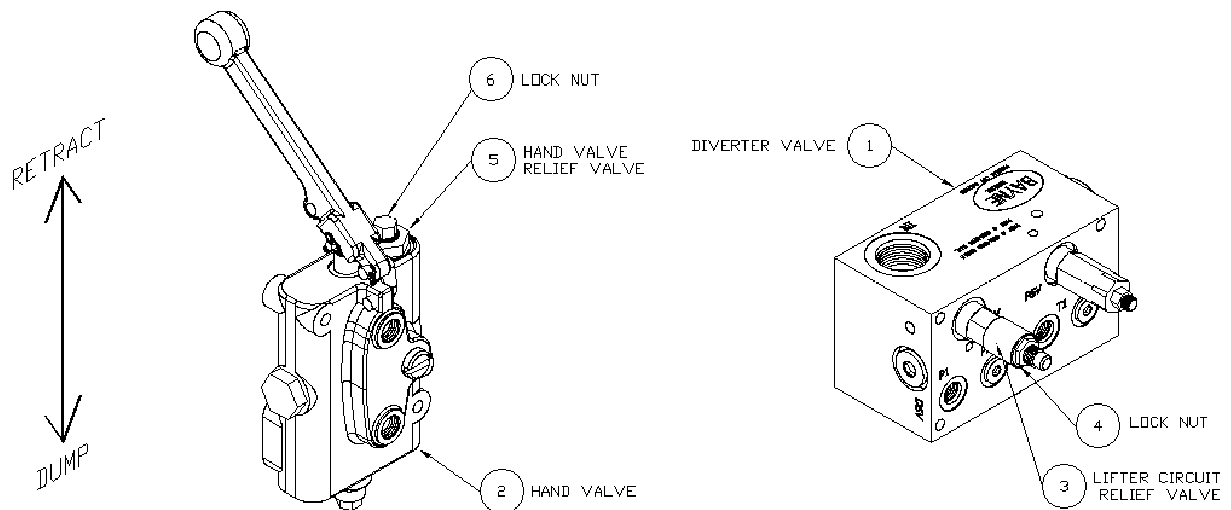
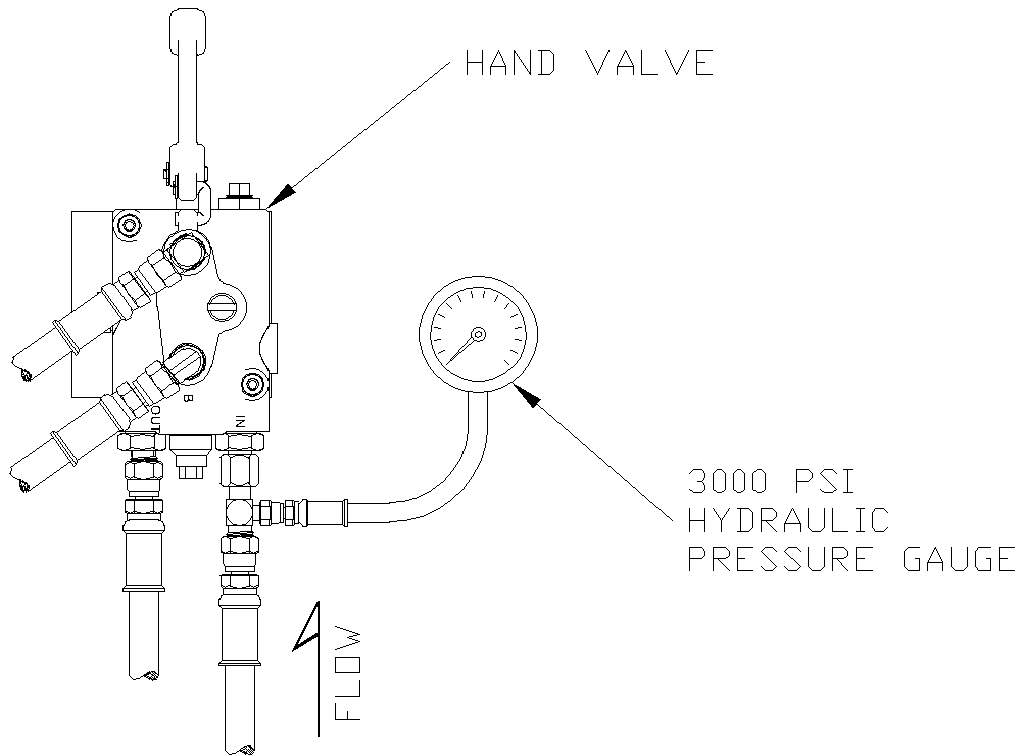

figure I-4
figure I-5
The diverter valve (1) (figure I-4) supplies the cart lifter hydraulic system with approximately 2 GPM of oil flow. This diverter valve is equipped with a full system relief valve (4) set at 2500 psi, to protect the truck's hydraulic system from any blockages that may occur down stream of the diverter valve. The diverter valve also includes a lifter circuit relief valve (3) set at 2300 psi, to prevent the diverter valve from shutting down if a blockage occurs in the lifter circuit. There is also a relief valve (5) set at 1800 psi in the hand valve (2) to protect the lifter from excessive pressure. These relief valves are preset from the factory to operate properly on most trucks with a system pressure between 2300 and 2500 psi without any adjustment. However if any adjustment is necessary, follow these instructions.
2. Remove the cap nut(s) (8) (*figure I-4*) from the hand valve relief valve(s) (5) and turn the adjustment screw(s) clockwise until it bottoms out.
3. Loosen the lock nut (6) (*figure I-4*) on the lifter circuit relief valve (3) and turn the adjustment screw clockwise until it bottoms out.
4. Loosen the lock nut (7) (*figure I-4*) on the full system relief valve (4) and turn the adjustment screw counter-clockwise until it stops backing out.
- a) Have an assistant hold the handle on the hand valve (2) (*figure I-4*) in the "retract" position. *If installing dual lifters hold the handle down on only one of the hand valves.*
- b) Turn the pressure relief adjustment screw on the full system relief valve (4) clockwise until the pressure reading on the gauge is either 100 psi above truck system pressure, or if the pressure reaches a certain point and will not go any higher, set the adjustment screw 1/2 turn past that point.
11. Install the 3000 psi hydraulic pressure gauge with the necessary adapter in the hydraulic line connected to the "IN" port of the hand valve as shown in figure I-5. *If installing dual lifters, install the hydraulic gauge at either one of the hand valves.*
- a) Have an assistant hold the handle on the hand valve (2) (*figure I-4*) (*with pressure gauge installed at the "IN" port*) in the "retract" position to show pressure on the gauge.
- b) Turn the pressure relief adjusting screw on the lifter circuit relief valve (3) counter-clockwise until the pressure reading on the gauge is either 100 psi less than truck system pressure or 2300 psi, which ever is the lowest.
- a) Hold the handle on the hand valve (2) (*figure I-4*) (*with pressure gauge installed at the “IN” port*) in the “retract” position to show pressure on the gauge.
- b) Turn the pressure relief adjusting screw on the hand valve relief valve (5) counter-clockwise until the pressure reading on the gauge is either 200 psi less than truck system pressure or 1800 psi, which ever is the lowest.
- f) *For dual lifters, install the hydraulic pressure gauge in the “IN” port of the other hand valve as shown in figure I-5, start the truck’s engine, engage the hydraulic system, and repeat step 13.*
16. Reinstall the cap nut(s) (8) (*figure I-4*) on the hand valve(s) relief valve (5) to secure the correct pressure setting(s).
17. Tighten the lock nut (7) (*figure I-4*) on the full system relief valve (4) to secure the correct pressure setting.
18. Tighten the lock nut (6) (*figure I-4*) on the lifter circuit relief valve (3) to secure the correct pressure setting.